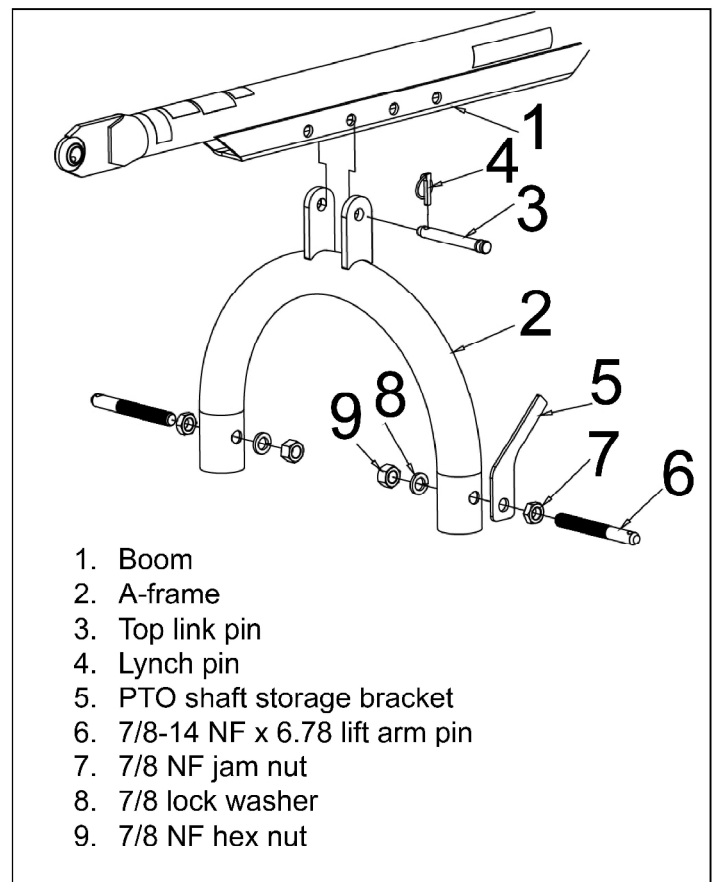

Figure 6. A-Frame to Boom Assembly
1. Connect lift arm pins (6), Figure 6, and hardware supplied with pins to the A-frame assembly (2). Mount PTO shaft storage bracket as shown on outside of A-Frame.